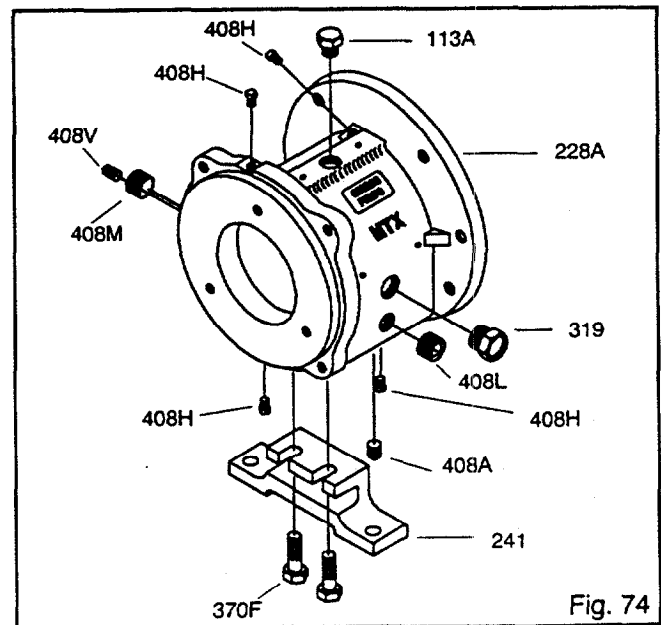

Fig. 74
1. Install oil fill plug (113A), oil drain plug (408A), sight window (319), sight oiler plug (408J), 4 oil mist connection plugs (408H) or grease fittings (193) and relief plugs (113), and oil cooler inlet and outlet plugs (408L, 408M) in bearing frame (228). (Fig. 74)
2. Attach bearing frame foot (241) with bolts (370F). Hand tighten.